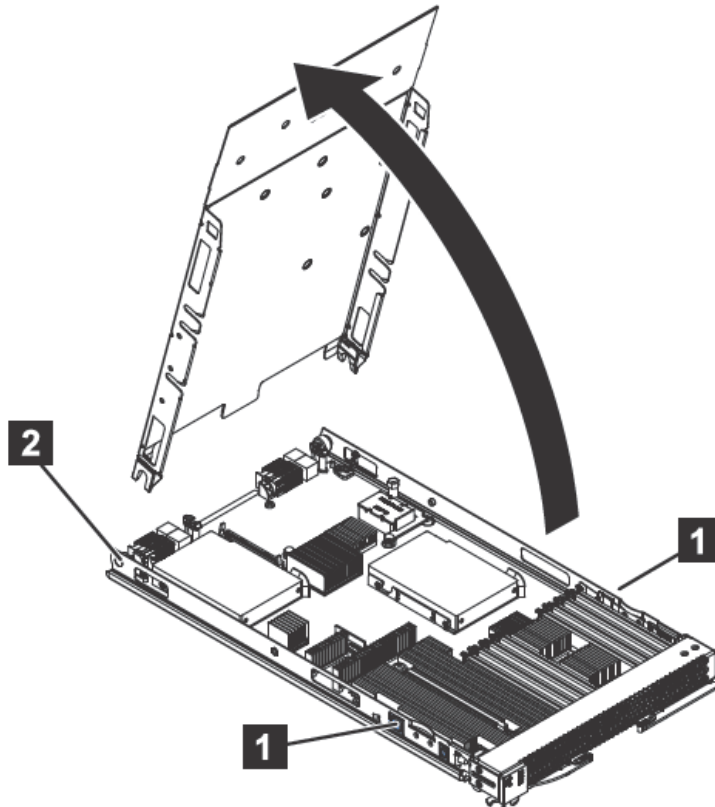

Figure 3-2. Removing the cover
4. Press the blade-cover release (as shown by **1** for the base unit in Figure 3-2) on each side of the blade server, rotate the cover on the cover pins (**2**) and lift the cover open.